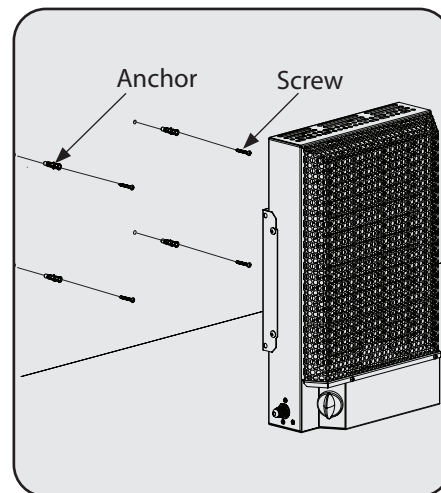

Figure 3
5. Push the plastic anchors into each hole and thread the screws into them. Refer to Figure 3.